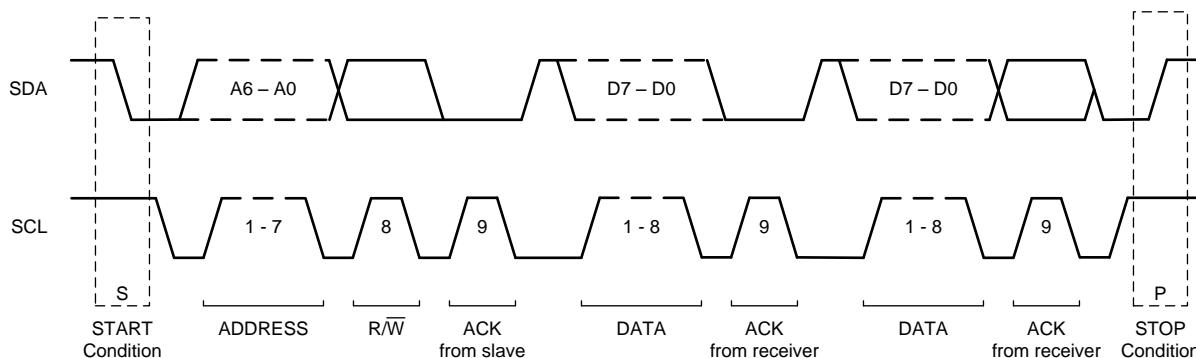

Figure 55. I²C Data Transfer Format
Figure 55 shows the format of the data transfer. The master initiates all transactions with the ADS112C04 by generating a START (S) condition. A high-to-low transition on the SDA line while SCL is high defines a START condition. The bus is considered to be busy after the START condition.